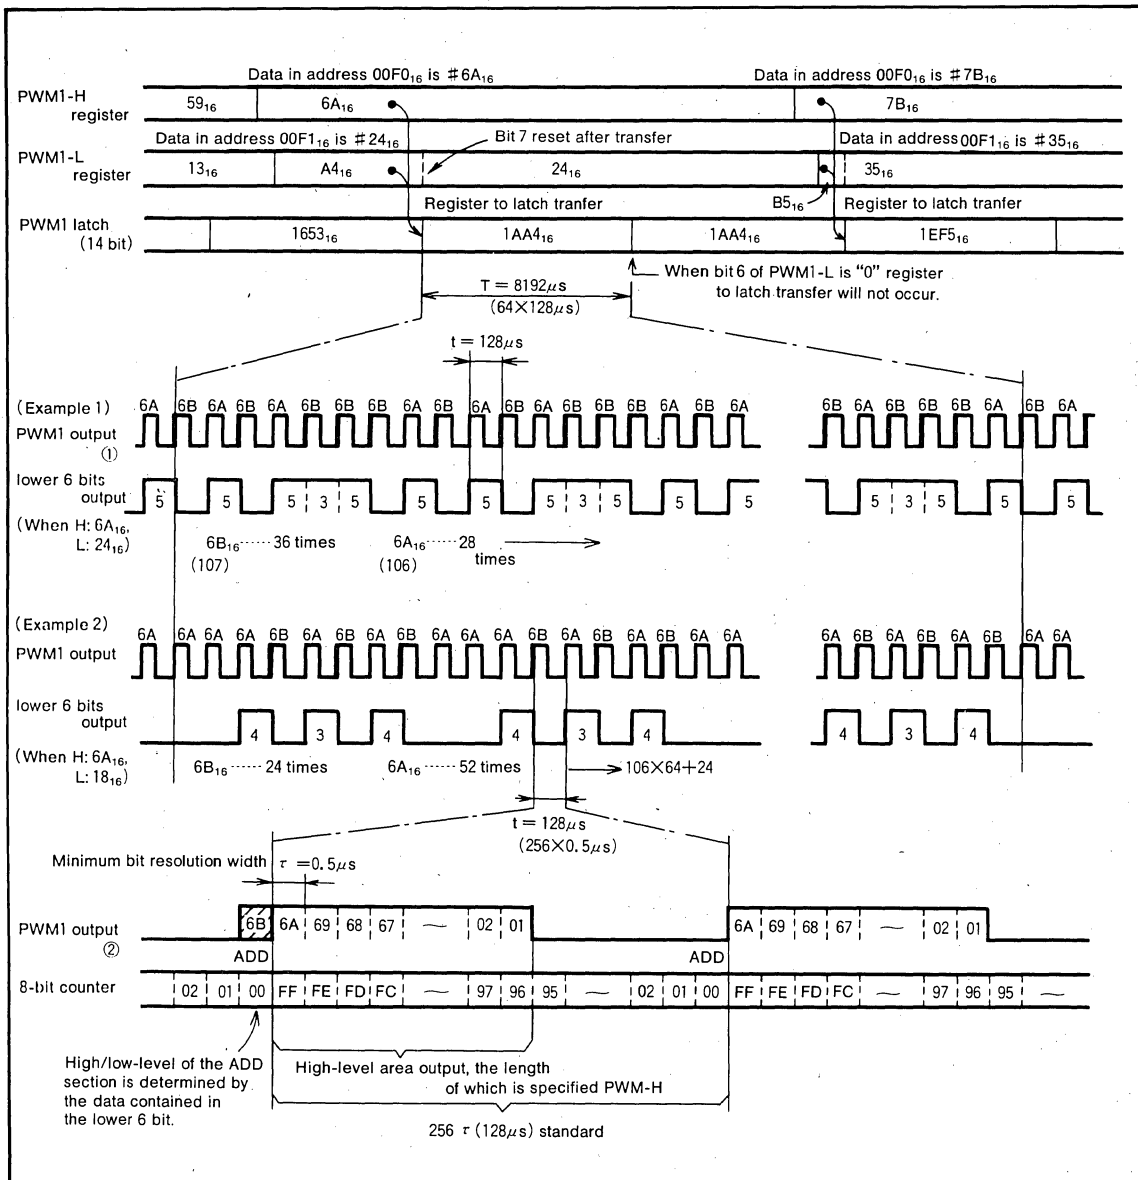

Fig.11 14-bit PWM timing diagram
The timing diagram of the 14-bit PWM1 is shown in Figure 11. The 14-bit PWM divides the data within the PWM latch into the lower 6 bits and higher 8 bits.
A high-level area within a length N times  $\tau$  is output every short area of  $t=256 \tau = 128\mu\text{s}$  as determined by data N of the higher 8 bits. (Refer to PWM output ② in the lower part of Figure 11.)